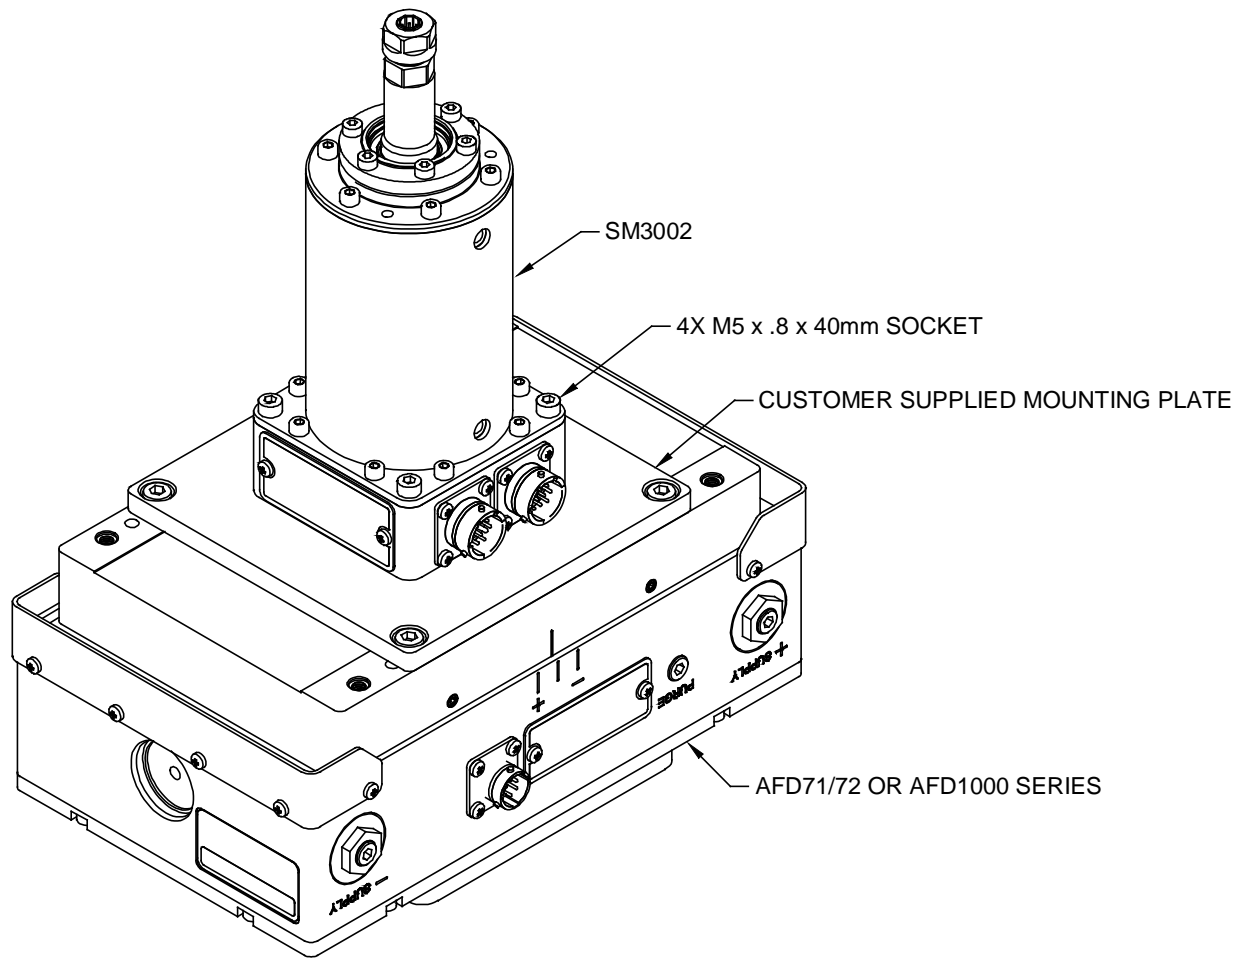

Figure 4. SM3002 Perpendicular-Axis Configuration
To attach the SM3002 to an AFD in a Perpendicular-Axis configuration (See Figure 4), the customer supplied mounting plate is first attached to the AFD Carriage. Then position and secure the SM3002 using the four (4), M5x.8x40mm, Socket Head Cap Screws. Tighten the fasteners to the torque specified in Section 4.0.